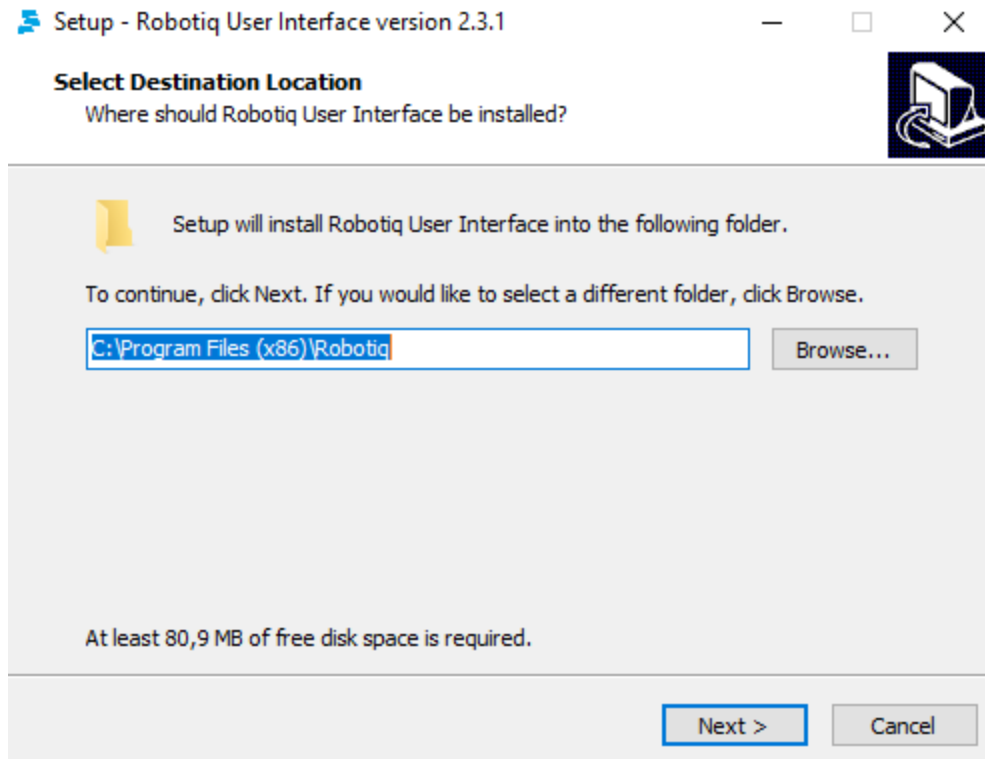

Figure 3.1.1 : Robotiq User Interface Install.
3. Follow the setup steps until you can click "Install". See Figure 3.1.1